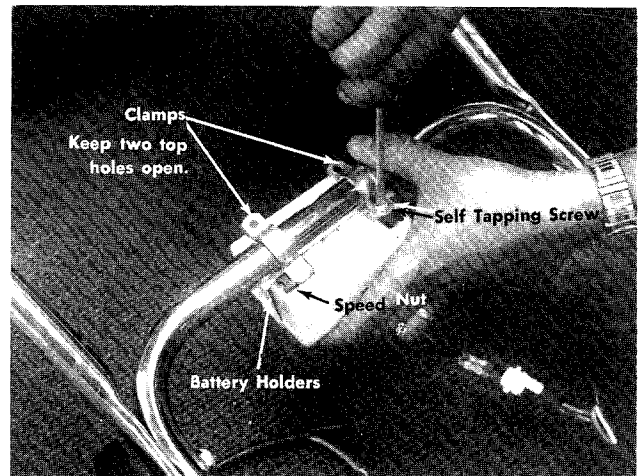

FIGURE 11. ASSEMBLY OF BATTERY PACK TO HANDLE
6. Place the battery pack with battery holders in the center of the lower handle. See figure 11.
7. Secure battery pack in position with two clamps and two self tapping screws. See figure 11. NOTE: Just start two screws on bottom of clamps. Do not tighten.